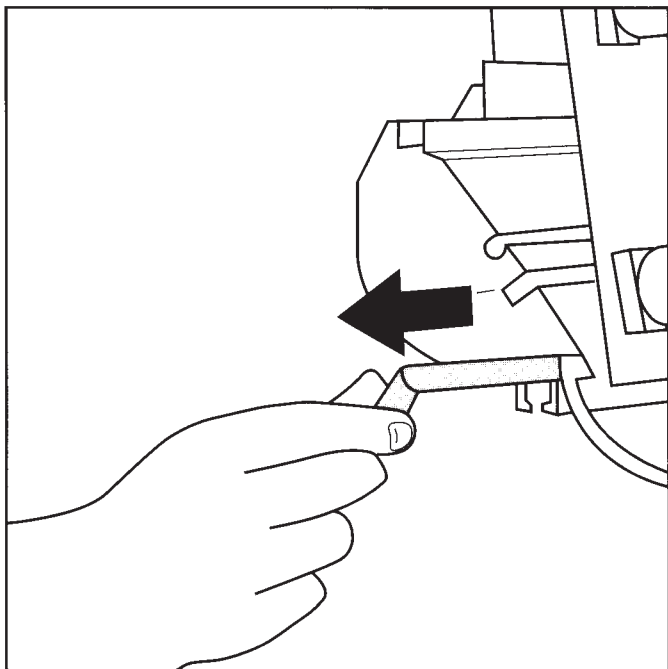

fig. 2
Pull the plastic locking pins (24) out (fig. 2) and detach the acrylic sheet (25) from the aluminium profile.